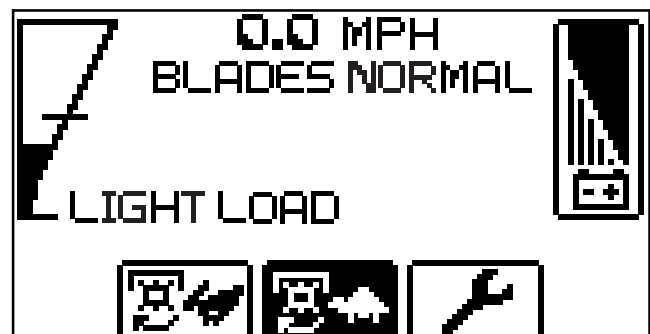

Figure 5-10
2. To return the mower to the blades normal function/light load, press the “BLADE NORMAL” button under the blades normal icon. When the blades normal is active the icon will darken. See Figure 5-10.